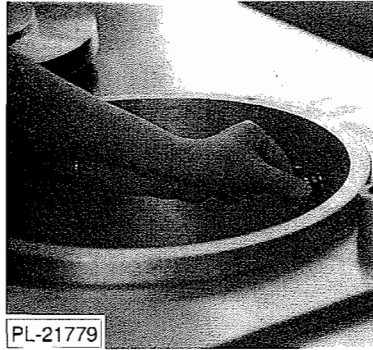

Fig. 24
5. Remove the elbow joint from inside the kettle (Fig. 24).